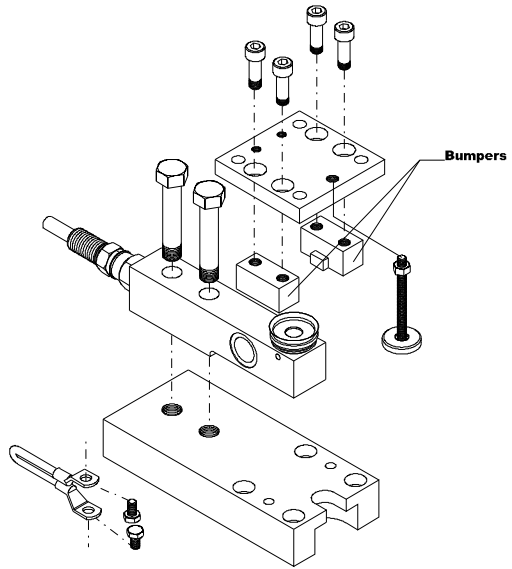

FIG. 24: EXPLODED ISO VIEW OF BUMPER LOAD POINT ASSEMBLY
- Step 8. The height (B) dimension is the minimum required service area above the load cell baseplate to remove the load cell bolts. (See Fig. 24 & Table 3)
- Use a box-end wrench to remove the two hex machine screws that fasten the stainless plate to the top plate. (See Fig. 24)